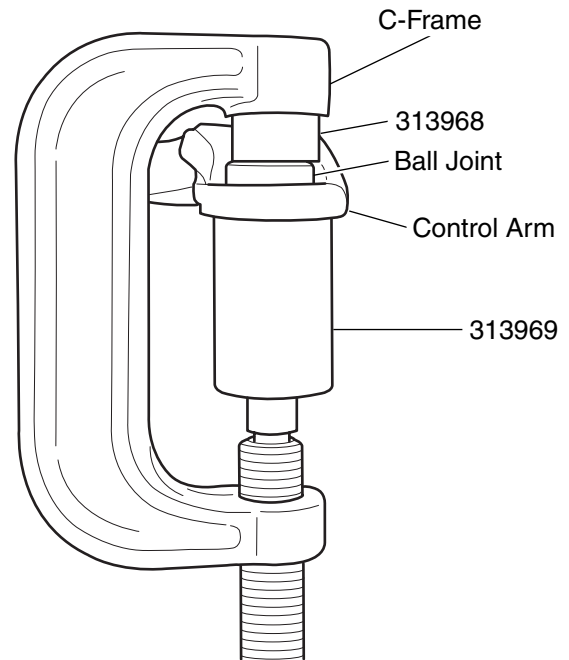

Figure 1. Ball Joint Removal
3. Position 313969 (or 29505 and 305228) and the C-Frame as shown in Figure 1.